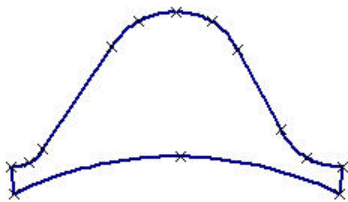

Figure 11. The final pattern
16. Choose File/Save (FS) to save the final pattern (Fig. 11.)